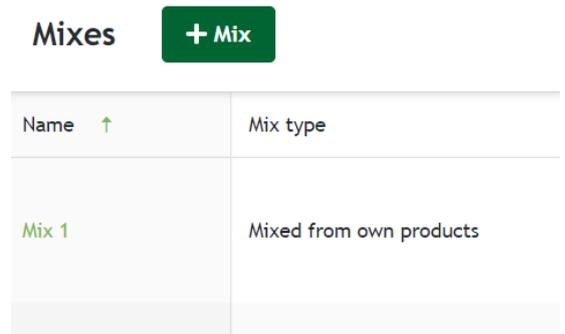

Figure 5
2. You will then be taken to a new screen as shown in figure 5. Click on the green button "+ Mix" to create a mix.